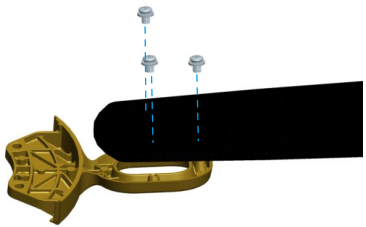

Fig 1.1
- 1.1 Locate 15 blade attachment screws in the hardware pack. Secure each blade to the blade bracket using the blade screws as shown in Fig 1.1.